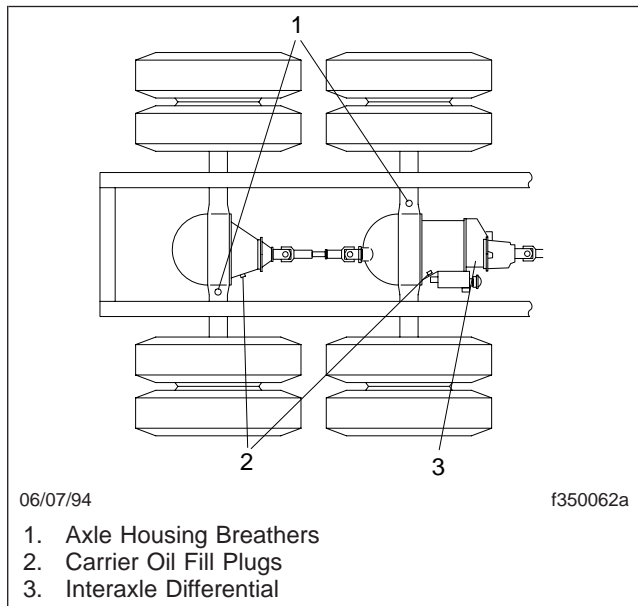

Fig. 1, Fill Plug and Axle Housing Breather Locations
2. Clean the fill plug in the side of the axle carrier, and the area surrounding it. See Fig. 1. Then remove the plug.
Axle housing breathers (see Fig. 1) must remain clean. Whenever the axle lubricant level is checked, check the axle breather to be sure it is open. Check more often under adverse operating conditions. If the breather is plugged, clean or replace it as needed.